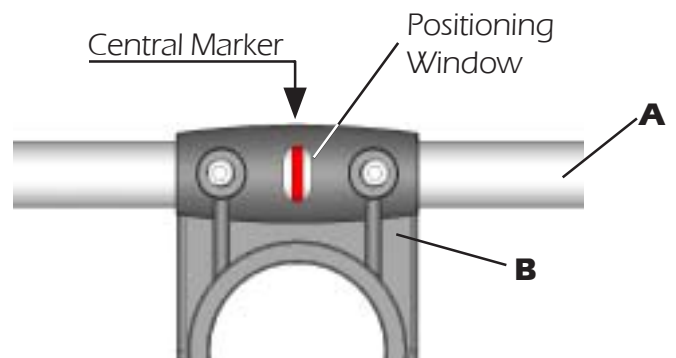
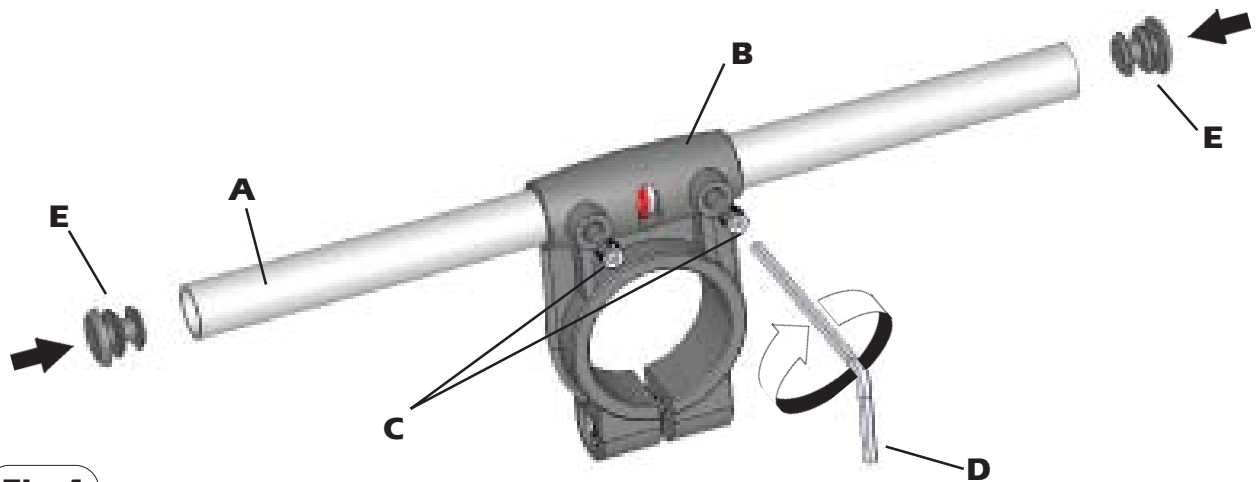

Fig.3
Fig.4
2) Place the reference marker of the aluminium element **A** in the centre of the plastic support **B** (see **fig. 3**) and lock the screws **C** by the supplied key **D** (**fig. 4**). When the screws touch the aluminium tubes you can finally lock them turning for 1.5 turns.
3) Insert the plastic caps **E** on the aluminium elements **A** (see **fig. 4**)